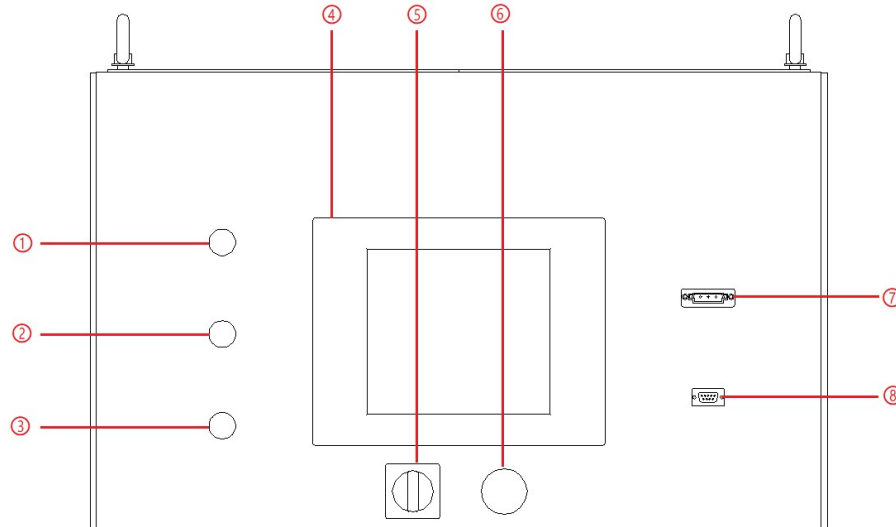
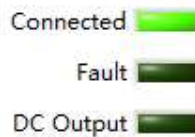

Figure 3-4 Front Panel
Figure 3-5 Touch screen software indicators
A few seconds after the power is initialized, the control unit and touch screen start to work, the power supply is standby. If the power supply communication is normal, the white light (Figure 3-4①) is always on. All functions and parameters can be accessed through the TFT-Touch panel or GUI software to set up and run, the "Connect" indicator on the touch screen software interface is green (Figure 3-5).